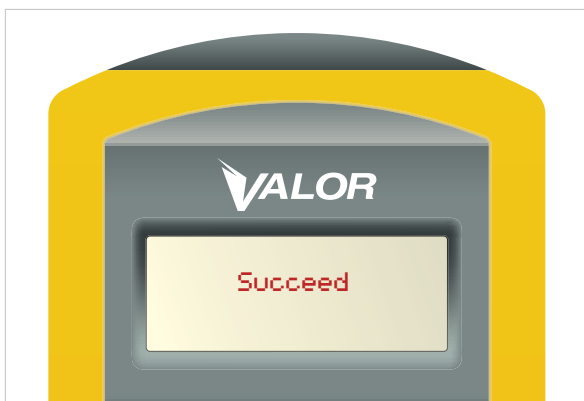

Figure 20
1. Once the SmarTool has completed transmitting the information to the Valor CANbus transceiver, the screen will display “Succeed.” (Figure 20)